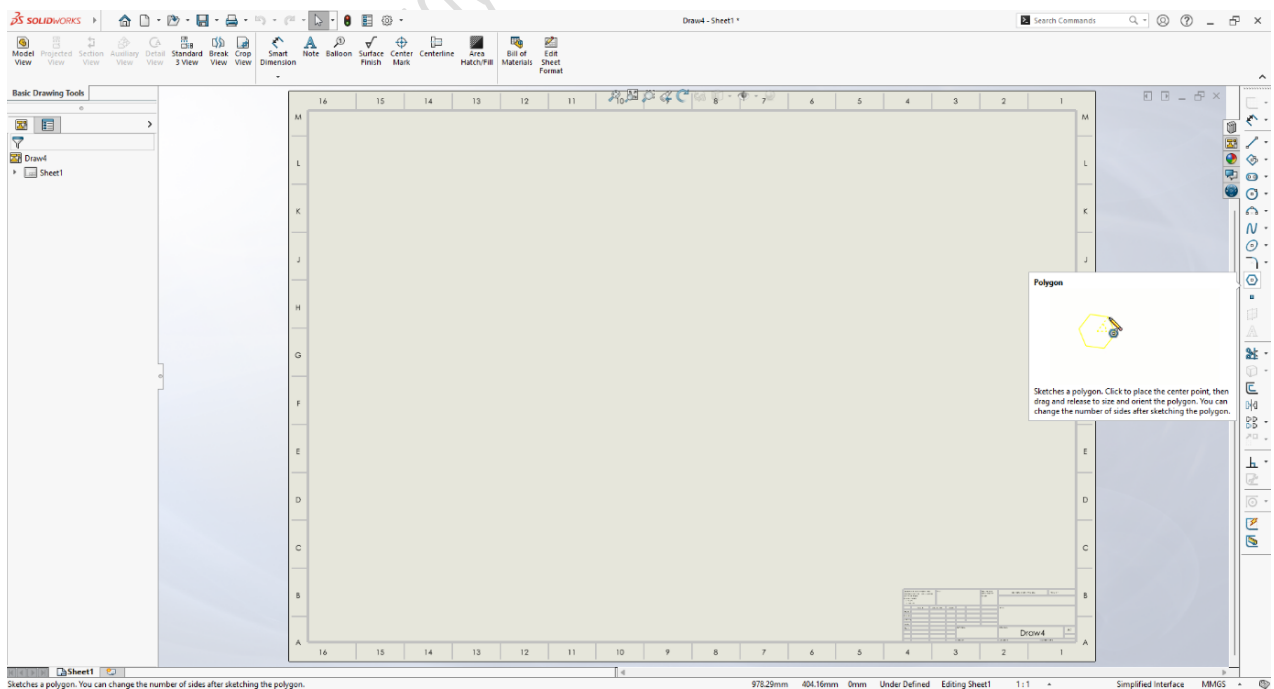

Figure 2.18: Location of Polygon Tool
4. **Polygon tool:** The Polygon Tool in SolidWorks is used to draw regular polygons shapes with equal-length sides and equal angles. You can create shapes such as triangles, pentagons, hexagons, and more by specifying the number of sides and selecting a center point. The polygon can be inscribed in or circumscribed about a circle, and its orientation can be adjusted as needed. This tool is useful for designing symmetric components and patterns in mechanical and structural designs (Figure 2.18).